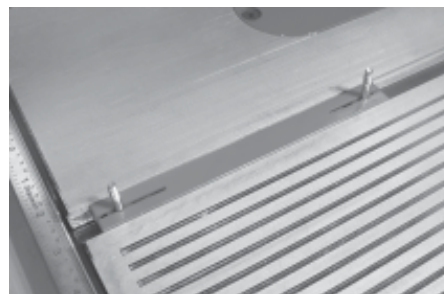

Figure 1
2. Place the Bar in the miter slot of your Worktable. Position the bar with the Pins up and the bar flush with the top of the Worktable as shown in Figure 1.